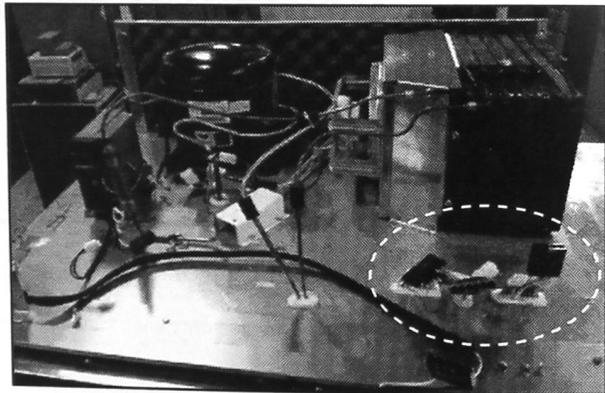

FIGURE 11
13. After disconnecting all the connectors and removal of the HV box assembly, the top of the product will look as shown in Figure 11.
**NOTE:** Following the removal of the HV box assembly, the circled connections should be present on the unit. See Figure 11.